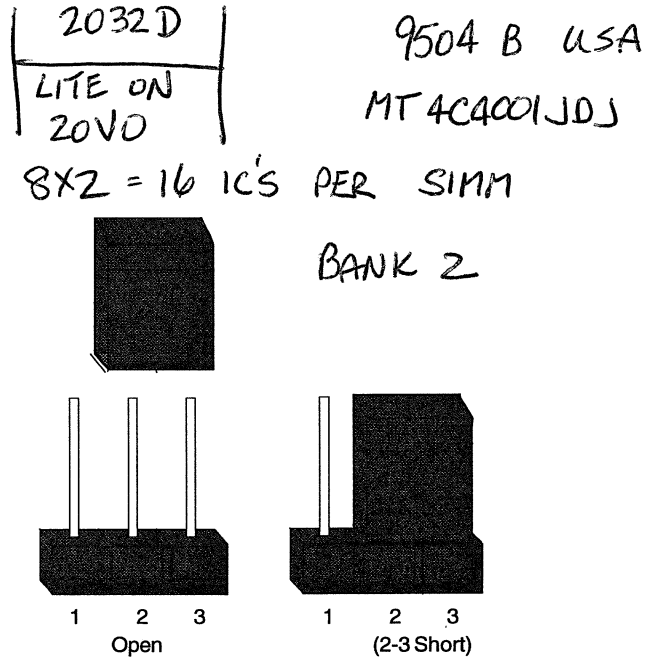

Figure 2-3. Example of a Jumper and Jumper Block
There are jumpers on the Micron system board that have to be set before the board is installed into the computer. Setting the jumpers allows various functions on the system board to be configured. Figure 2-3 shows an example of a Jumper and a Jumper Block.
Step 1: Using both hands, carefully set the SIMM into the socket at a **45 degree angle**, tilted towards the ISA slots (refer to Figures 2-3 and 2-4). Do not force it in or damage may result. Note that the SIMM modules are keyed in such a way that they cannot be inserted incorrectly (refer to Figure 2-5 on page 14). If you are having difficulty placing them into the socket, check to see that you are not attempting to insert them backwards.